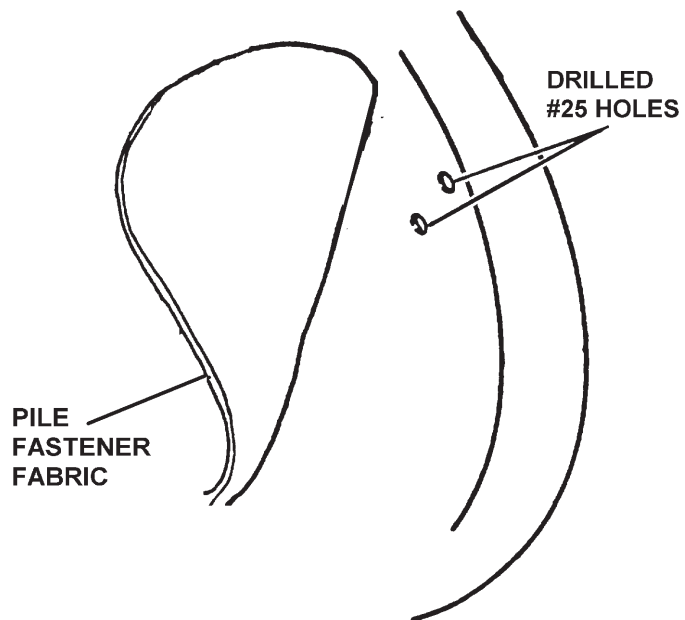

Figure 2-6. Pile Fastener Fabric Pulled Back
6. Remove the earcup assembly on one side. Referring to Figure 2-6, pull back the earcup pile fastener fabric inside the helmet shell on the same side. Using a #25 drill bit, drill the marked hole locations. Repeat for the other side.